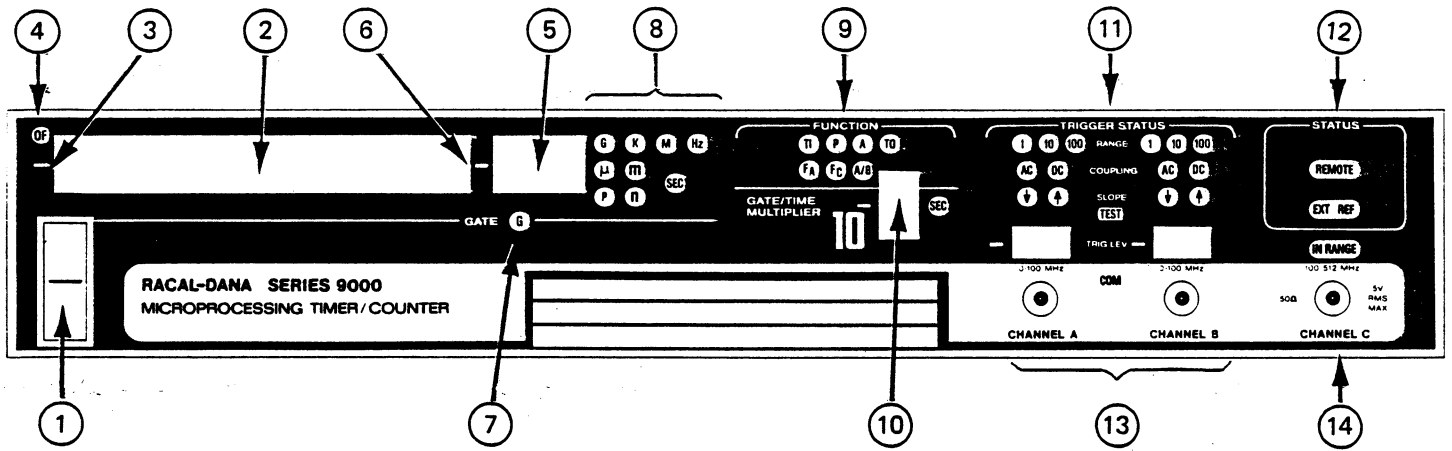

Figure 2.2 - Front Panel
2.9.1 The location, nomenclature and function of all controls, indicators and connectors are illustrated in Figures 2.2 thru 2.4 and described in Table 2.1.